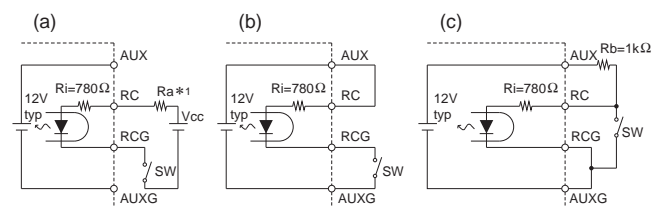

Fig.2.3 Examples of connecting remote ON/OFF circuit
■ You can operate the remote ON/OFF function by sending signals to CN1/CN2. Please see Table 2.2 and Table 2.3 for specifications and Fig.2.3 for connecting examples.
- ① The output stops when a current flows to RC.
- ② The current flown to RC is a 20mA max.
- ③ When the output voltage is turned off through the remote ON/OFF circuit, the built-in fan slows down.
- ④ If the output voltage is turned off through the remote ON/OFF circuit, the WRN signals and the PG signals keep "Low".
- ⑤ Description in this section is based on the assumption that you will use one unit alone. If you are planning to use the units in parallel operation or use multiple units for a single system, please check necessary voltage and current values.
Table 2.3 Specifications of remote ON/OFF (Case of Fig.2.3)
| Connection method | Fig.2.3 (a) | Fig.2.3 (b) | Fig.2.3 (c) |